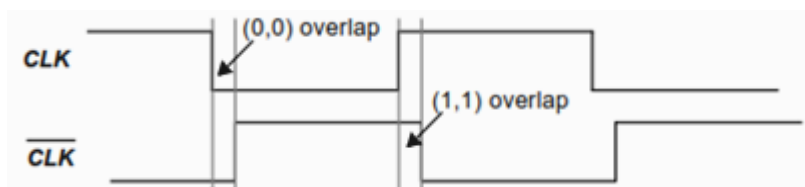

Figure 3.15 Impact of non-overlapping clocks
- Clock overlap is an important for register. Consider the clock waveforms shown in Figure 3.15.